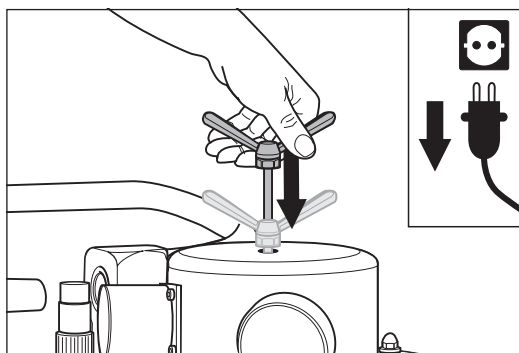

Fig. 74 Push the cleaning slide as far as possible into the dust separator.
- 5 Now it is time to push the cleaning slide all the way down to centre the system (fig. 74). Otherwise the system will be very hard to work with later.